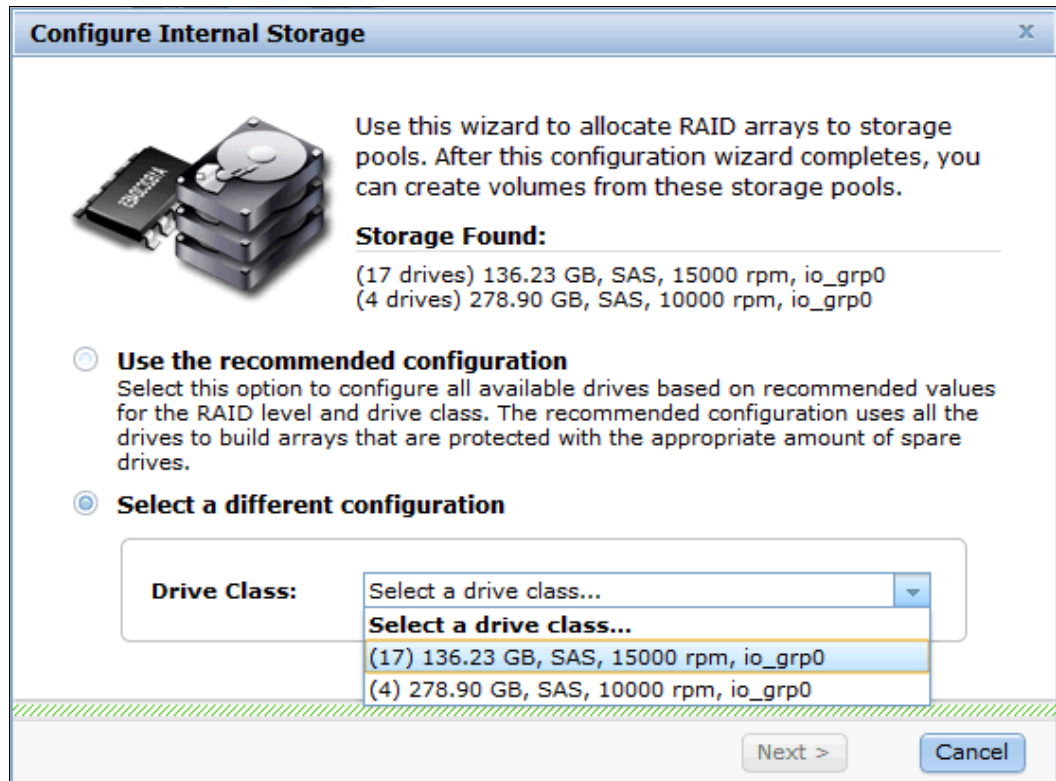

Figure 8-16 Select a drive class
1. Click **Select a different configuration** and choose the **Drive Class** you want to configure (Figure 8-16).